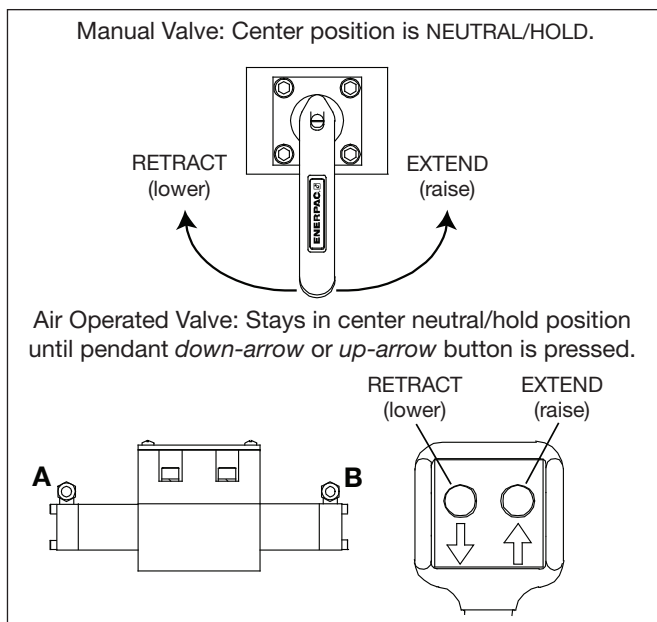

Figure 3, Control Valve and Pendant Details
5.1 Control Valves (See Figure 3)
5.3 Operating Instructions (See Figures 3, 4 and 5)